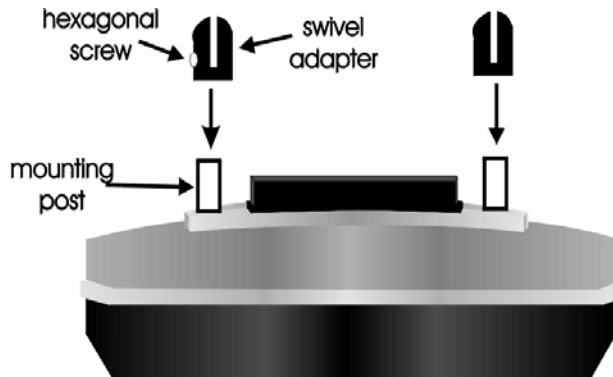

Figure 2-5: Attaching the swivel adapters to the Noggin 250.
3. Attach the Noggin: Before the Noggin unit can be attached to the Smart Cart, the 4 swivel adapters (with attached Clevis pins) must be attached to the mounting posts on the Noggin (see Figure 2-5). Set the swivel adapter down on the post. It may be necessary to loosen the Allen (hexagonal) screw before the swivel adapter will slide down into the proper position. This can be done using the 1/8" Allen (hexagonal) wrench provided. Now, tighten each screw and then loosen ¼ turn so that the swivel adapters are firmly attached to the post but can still rotate. **DO NOT OVER-TIGHTEN!**